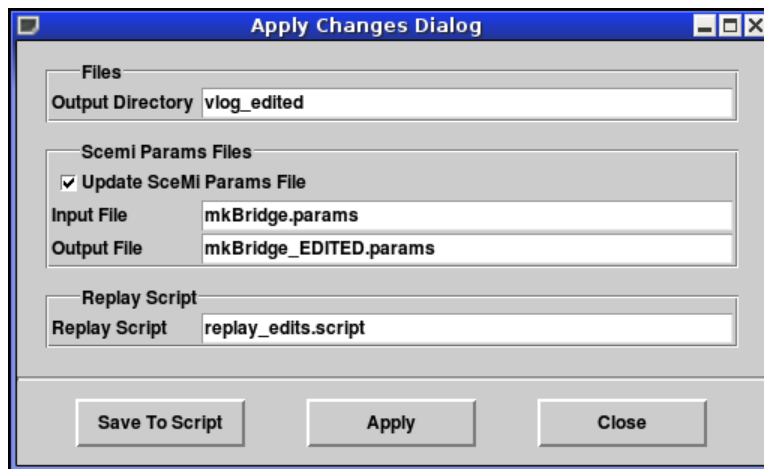

Figure 19: Applying Changes
- **Apply...** brings up the **Apply Changes Dialog** window, shown in Figure 19. From within this window, the **Save to Script** button saves the script, while the **Apply** button writes out the new HDL files, and if selected, a modified SceMiParams file as well.
Apply changes dialog From within the **Apply Changes Dialog**, shown in Figure 19, you can change file locations and file names, and select which components to save.